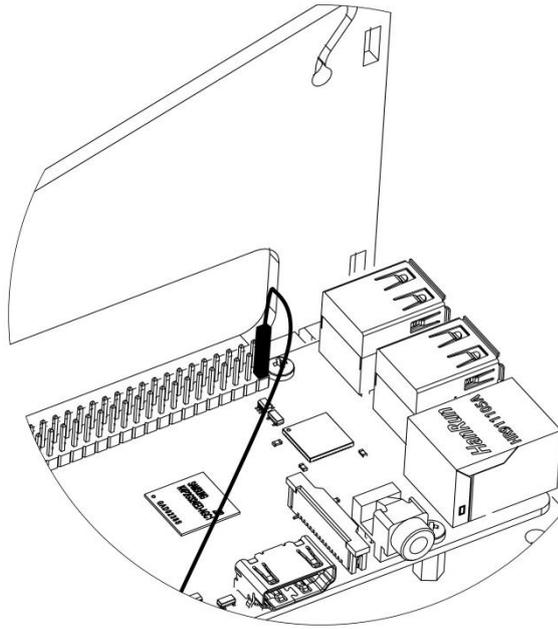

Figure 7
- 12) Fit the free end of the grounding wire to the **back right, inside pin** on the GPIO header, ensuring it is properly located as shown in *Figure 7*.